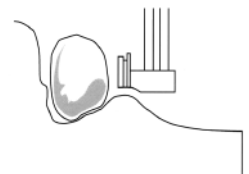

Fig. 2
2. Using your surveyor, position the female against the waxed abutment pattern (coping, crown or apron for bonding). The preferred placement is over the crest of the ridge or slightly lingual to it. Also place the female close to, but not in contact with, the tissue. The three different gingival offsets of the eyelet help to maintain the embrasure space while permitting the female to be placed close to the tissue (Fig.2).